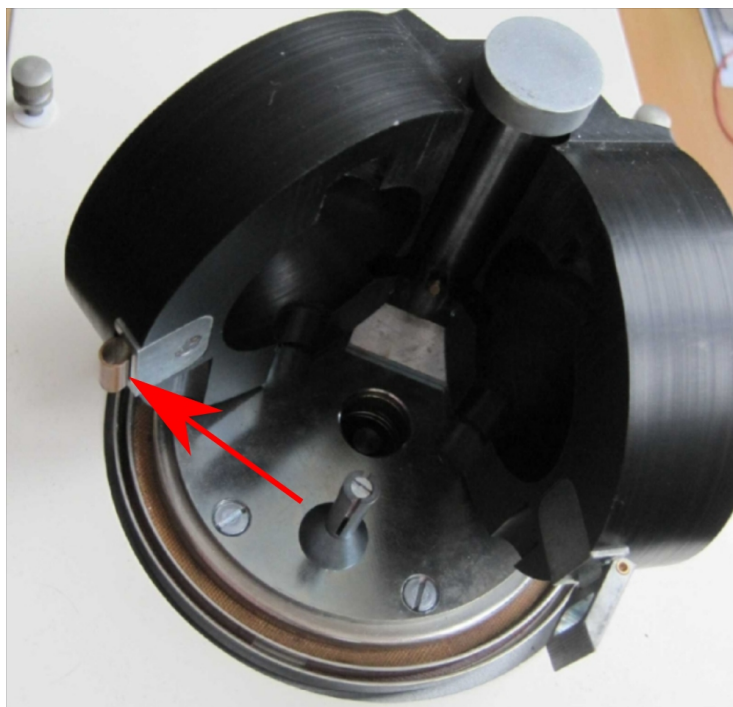

Figure 2: Bronze latch spring
3. Check a proper mechanical adjustment of bronze spring to the latch (see Figure 2), keeping both sides of measuring coils firmly together and preventing oscillation.